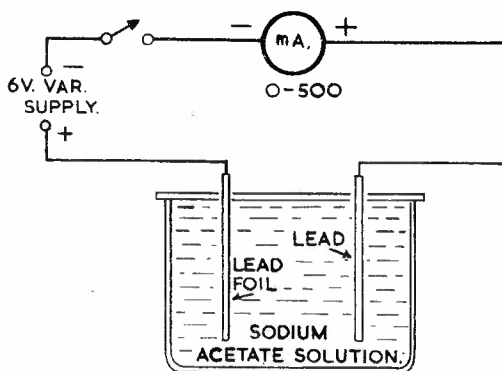

FIG. 1.
STEP 3. Connect the circuit as shown in Fig. 1 with the lead foil connected to the POSITIVE connection.